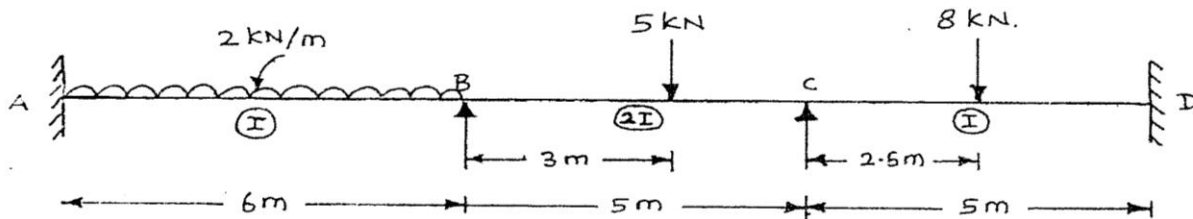

Figure -3
9. A continuous beam ABCD consists of three span, and is loaded as shown in figure-3, the ends A and B are fixed. Determine the bending moments at the supports and plot the bending moment diagram. Use moment distribution method.